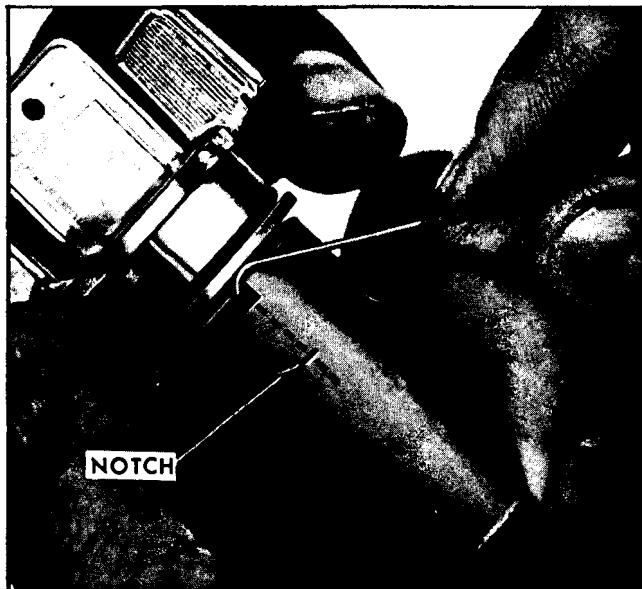

Fig. 0-10 Depressing Lock Cylinder Retainer Pin
3. Using suitable pick, depress brass pin in slot on side of cylinder as shown in Fig. 0-10.